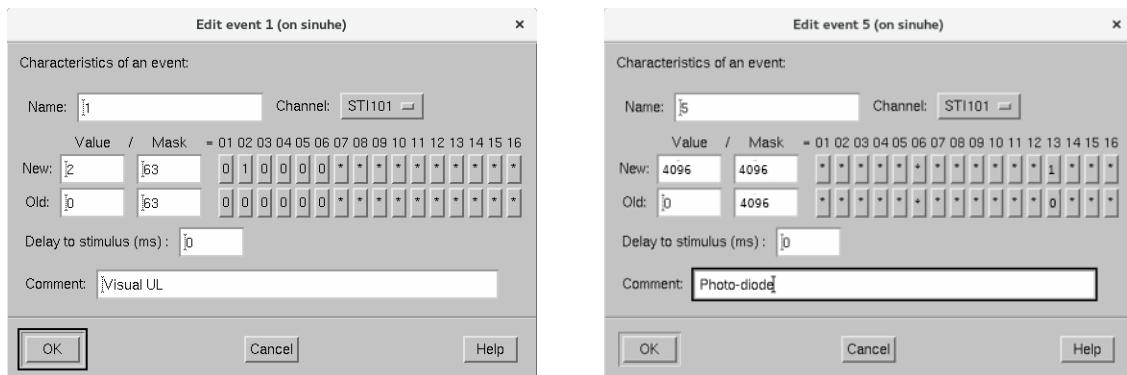

Figure 33: Event characteristics for a visual trigger (upper left) and Chronos trigger onset events.
- Select **Change** next to **On-line averaging**, then select **Change** to set **Event characteristics** (Figure 33):